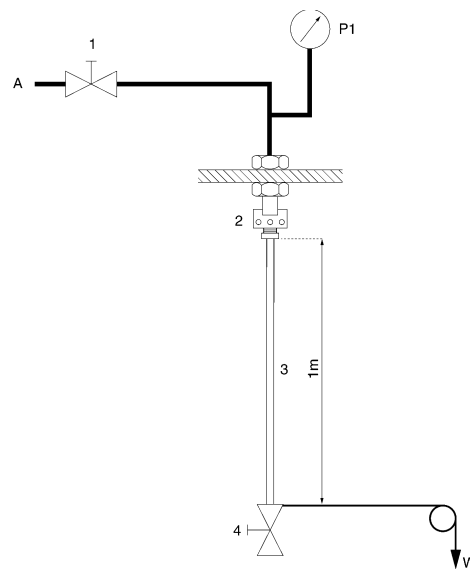

FIG 65
- (1) Mount the device in the test system in its normal working position. (Reference Figure 65).
- (2) The bending moment is measured at the connection to the pipe. In calculating the bending moment, make due allowances for the mass of the pipework, valves and any loads imposed by the test equipment.
- (3) Close all valves. Purge the air from the pipe '3' by means of valves '1' and '4'.
- (4) Apply a load W as shown in Figure 65, to produce a bending moment given in Table 65.
- (5) Gradually apply pressure through valve '1', at a rate not exceeding 1 bar per 5 seconds, up to 16 bar  $\pm$  0.5 bar.
- (6) Hold this pressure for 10 minutes  $\pm$  60 seconds.
- (7) Carry out the tightness test as detailed in TCS 1111.20 whilst the bending moment is applied (See (8)).
- (8) Set up the device as shown in Figure 65. Purge the test system, then close valve '4'. Gradually apply pressure at a rate not exceeding 1 bar per 5 seconds up to 10 bar  $\pm$  0.5 bar. Close valve '1'.
- (9) Hold this pressure for 10minutes  $\pm$  60 seconds.
- (10) Carry out the tightness test as detailed in TCS 1111.20 without the bending moment being applied.